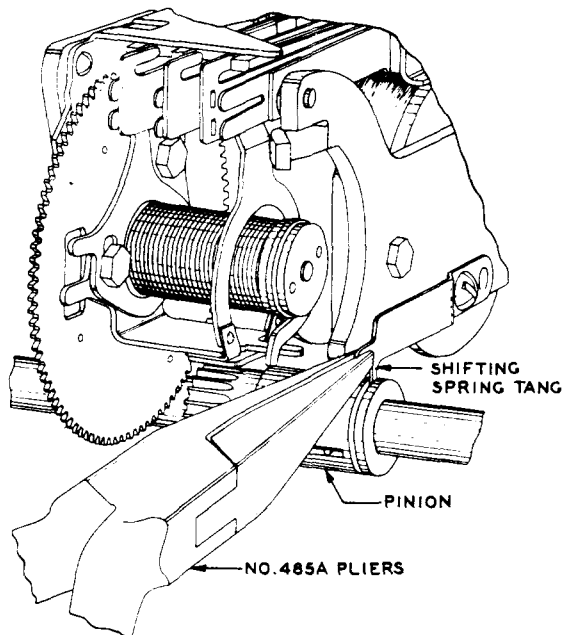

Fig. 22 - Method of Adjusting Shifting Spring
- (1) If it is necessary to change the position of a pinion with respect to its gear, adjust the tip of the shifting spring (Fig. 22) away from the armature with the No. 485A pliers to position the pinion nearer the gear or adjust the tip of the shifting spring toward the armature to position the pinion farther from the gear. After adjusting the tip of the shifting spring, check requirement 2.10 and, if necessary, readjust the shifting spring tension as outlined in 3.10(2). Check that requirements 2.07, 2.10, and 2.29(b) are met.